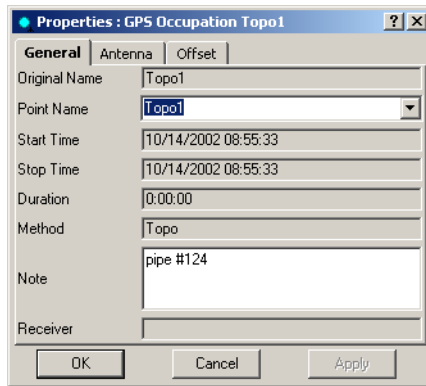

Figure 4-81. GPS Occupations Properties – General Tab
3. On the **Properties** dialog box, click the *General* tab (Figure 4-81).